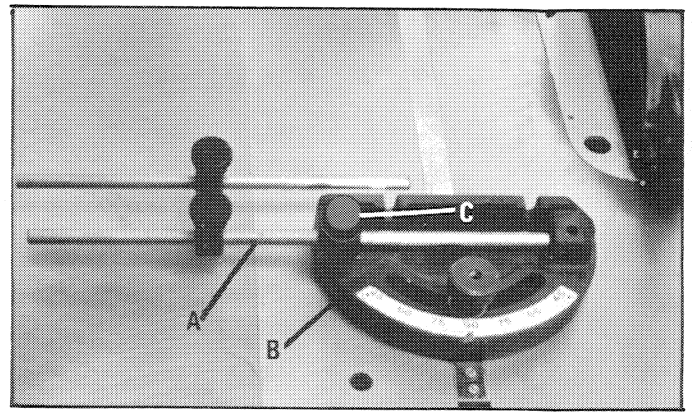

Fig. 31
Assemble stop rod assembly (A) to hole in the side of the miter gage body (B), as shown in Fig. 31, and tighten clamp screw (C).